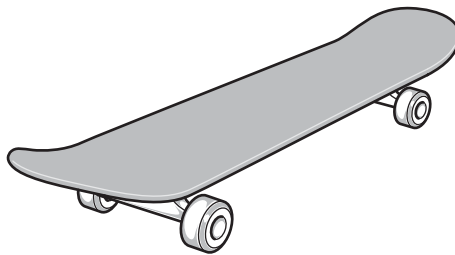

Fig. 3
- 4 Fig. 3 shows a skateboard. The deck is made by gluing thin layers of wood together.